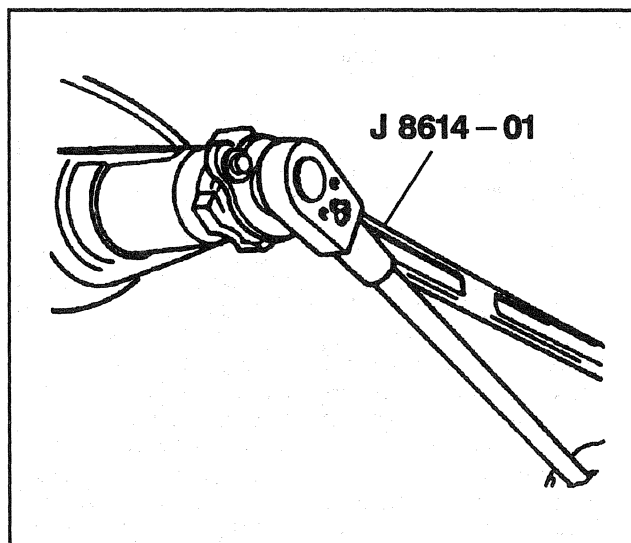

Figure 23—Tightening Pinion Nut
- Nut to 637 N.m (470 lb ft) while holding the pinion with J 8614-01 (Figure 23).